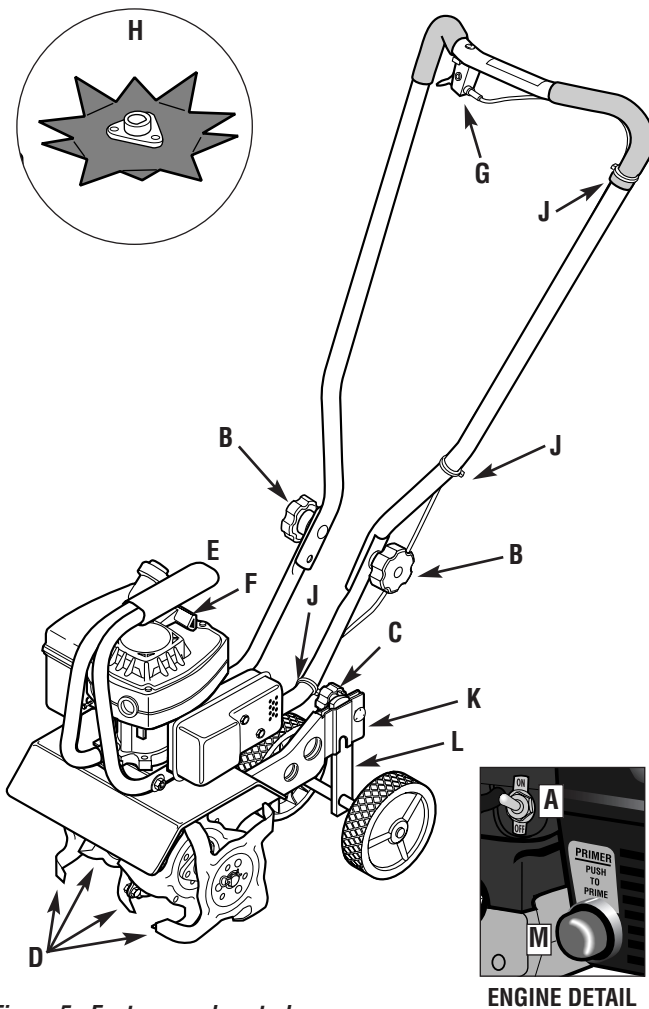

Figure 5: Features and controls.
The Border/Edger Attachment (H, Figure 5) does not need to be installed until you are ready to do edging projects (refer to instructions in this Section).
### Handlebar Height Adjustment Knob (B, Figure 5)
### Tilling Depth Adjustment Knob (C, Figure 5)
### Adjustable Tine Patterns (D, Figure 5)
### Carrying Handle (E, Figure 5)
### Edger Attachment (H, Figure 5)
### Engine On/Off Switch (A, Figure 5)
### Throttle/Tines Lever (G, Figure 5)
### Engine Recoil Start Rope (F, Figure 5)
### Fuel Primer Bulb (M, Figure 5)
3. Check the three plastic cable ties (J, Figure 5). Be sure that cables and ties are positioned as shown. Do not kink or pinch the control cables in the handlebar.
To stop the engine, move the engine On/Off Switch (A, Figure 5) to the OFF position.